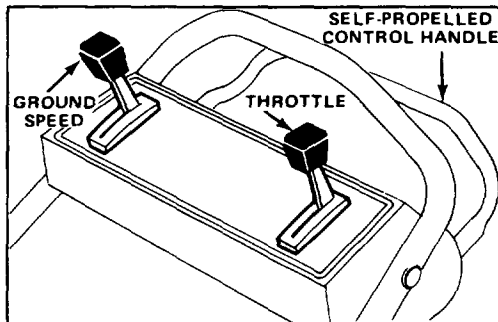
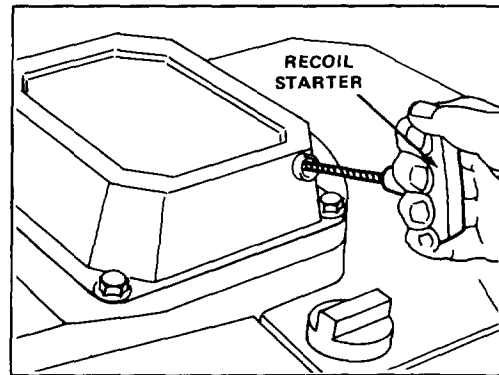

Figure 8
Figure 9
1. CONTROLS—Throttle, ground speed control, and blade/self-propelled control bar are on upper handle (Fig. 8). Fingertip starter is on top of engine (Fig. 9).
3. STARTING—Move ground speed control to "N" and throttle to CHOKE. Pull fingertip starter (Fig. 9) until positive engagement results; then pull vigorously to start the engine. Regulate throttle (Fig. 8) as desired when engine starts.
4. GROUND SPEED (Fig. 8)—Move ground speed control to desired setting. Number "1" is slow, "2" is medium, and "3" is a fast walking pace. Move ground speed control to "N" when using the mower for trimming and whenever leaving mower.